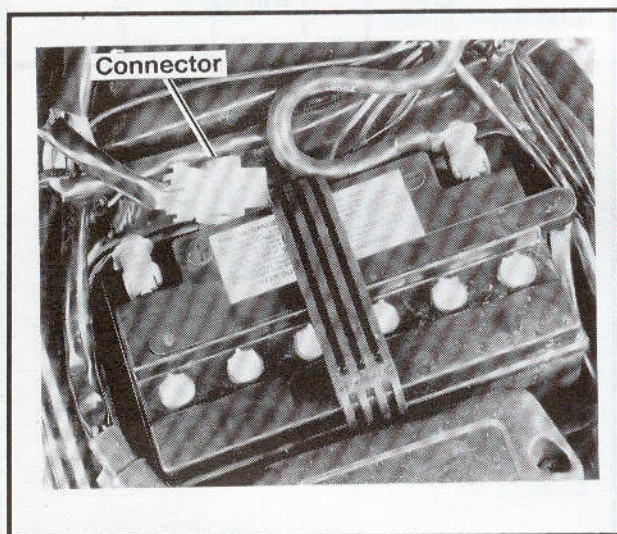

Figure 2-89. Rear Fender Wiring Harness Connector - FLSTC/F, FXSTC/S
3. See Figure 2-89. Disconnect the wiring harness at the connector under the seat.